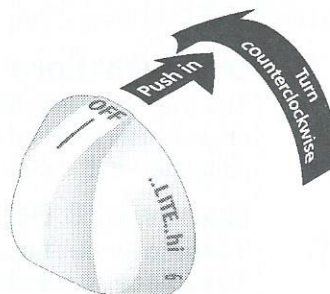

Fig. 4
3. Release the knob and rotate to the LITE position. Note: All four electronic surface ignitors will spark at the same time. However, only the burner you are turning on will ignite (Refer to Fig. 4).